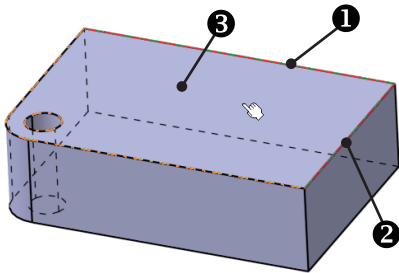

Fig 6-19 Selecting Edges and Plane
1. Press the **Hole** button and select the edges **1**, **2** and plane **3** in order as shown in Fig 6-19.